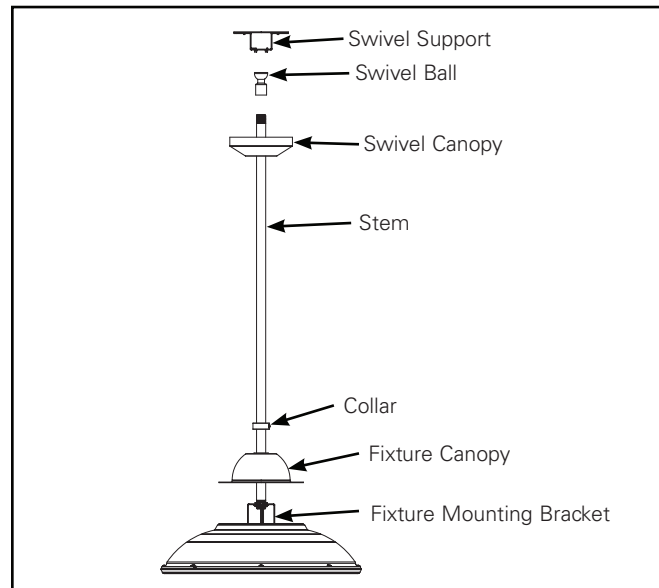
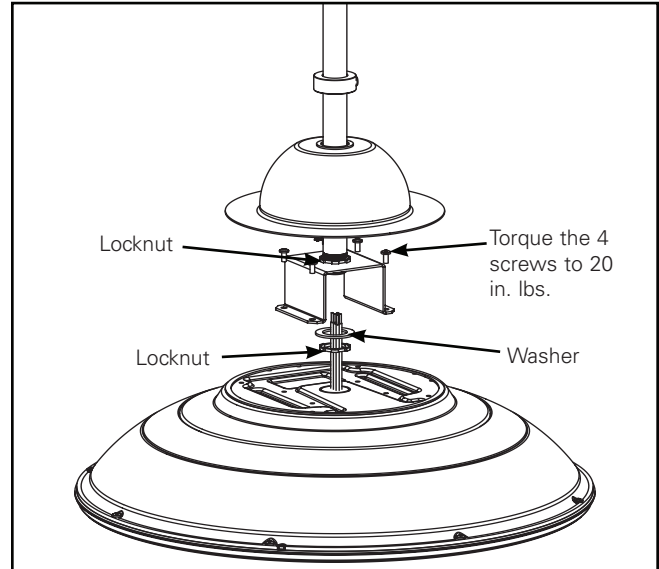

Figure 10. Decorative Pendant Mount Option
Figure 11.
2. Place fixture canopy, collar, and swivel canopy on stem. (Figure 10.)
3. Screw (1) locknut on base of stem to top of threading.
4. Insert stem through fixture mounting bracket. (Figure 11.)
5. Slide (1) washer and (1) locknut on to bottom of stem and tighten a minimum of 3 full turns.